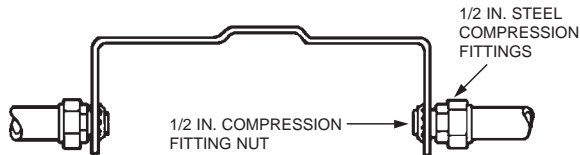

FIGURE 22
1. Secure the conduit to the detector bracket using 1/2 in. steel compression fittings. Thread the compression fitting into the detector bracket and then secure by using the lock nut supplied with the fitting. See Figure 22.